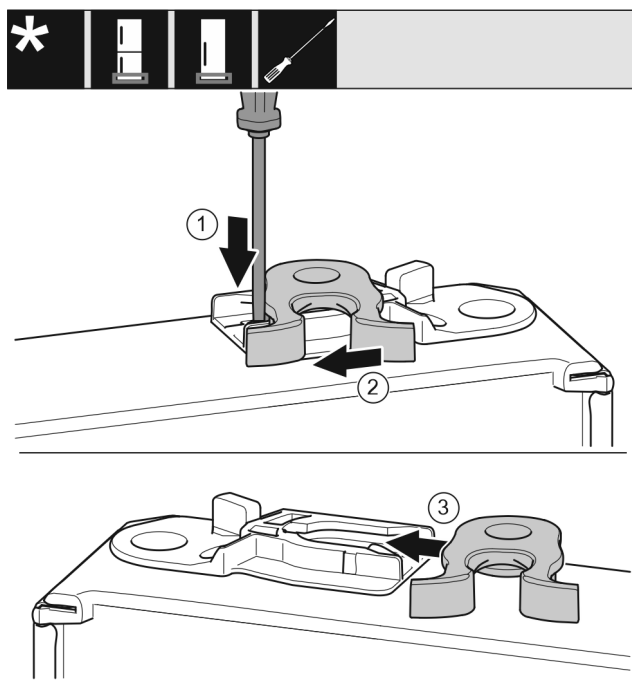

Fig. 49 *
- Use a slotted screwdriver to push the tab Fig. 49 (1) downwards.*
- Pull the closing hook Fig. 49 (2) out of the guide.*
- Insert the closing hook Fig. 49 (3) into the guide on the other side.*